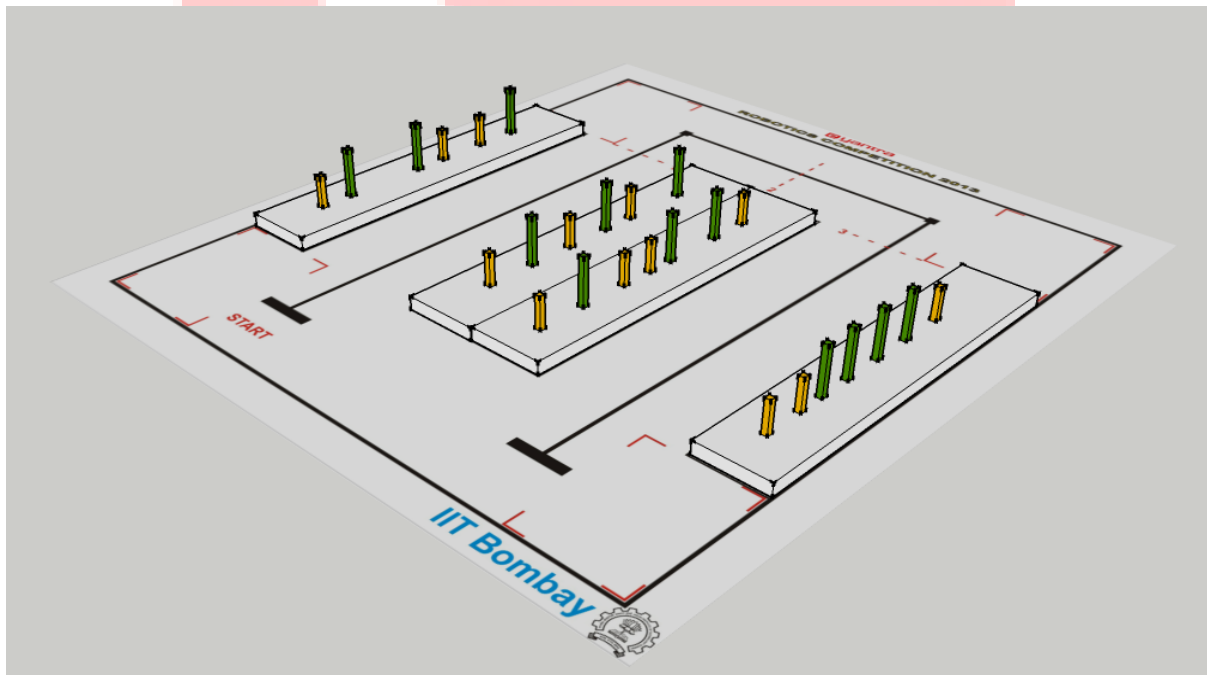

Figure 9: Final Arena
9. The completed arena at this point should look like Figure 9.